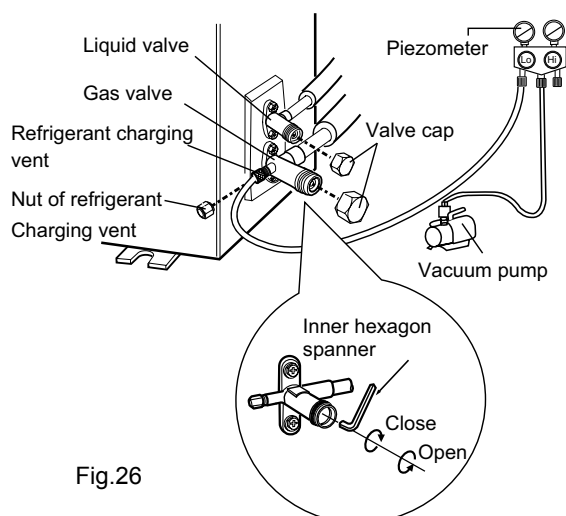

Fig.26
(1) Remove the valve caps on the liquid valve and gas valve and the nut of refrigerant charging vent.
(2) Connect the charging hose of piezometer to the refrigerant charging vent of gas valve and then connect the other charging hose to the vacuum pump.
(3) Open the piezometer completely and operate for 10-15min to check if the pressure of piezometer remains in -0.1MPa.
(4) Close the vacuum pump and maintain this status for 1-2min to check if the pressure of piezometer remains in -0.1MPa. If the pressure decreases, there may be leakage.
(5) Remove the piezometer, open the valve core of liquid valve and gas valve completely with inner hexagon spanner.
(6) Tighten the screw caps of valves and refrigerant charging vent.(As show in Fig.26)